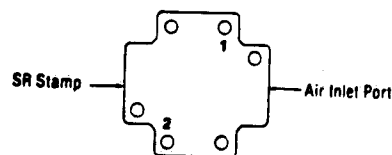

Figure 7-14. SOCKET-HEAD CAPSCREW LOCATIONS.
30. Align booster end plate with holes in booster cylinder and tighten the two short socket head capscrews numbered 1 and 2 in Figure 7-14).